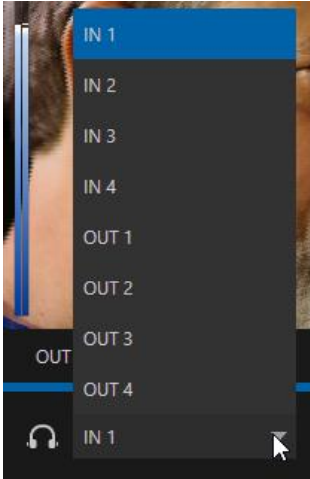

FIGURE 29
- 1. The audio source supplied to the *Headphone* jack can be selected using the menu next to the *headphone icon* (Figure 29).